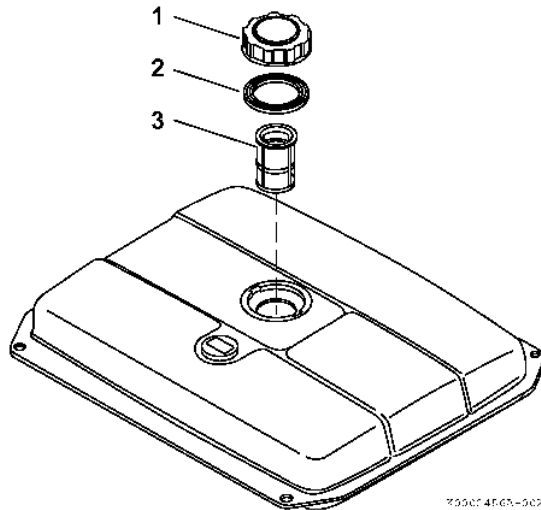

Figure 70
1. Clean the area around the fuel cap (Figure 70, (1)).
3. Lift out the inlet fuel screen (Figure 70, (3)).
5. Inspect fuel cap gasket (Figure 70, (2)) and replace if damaged.